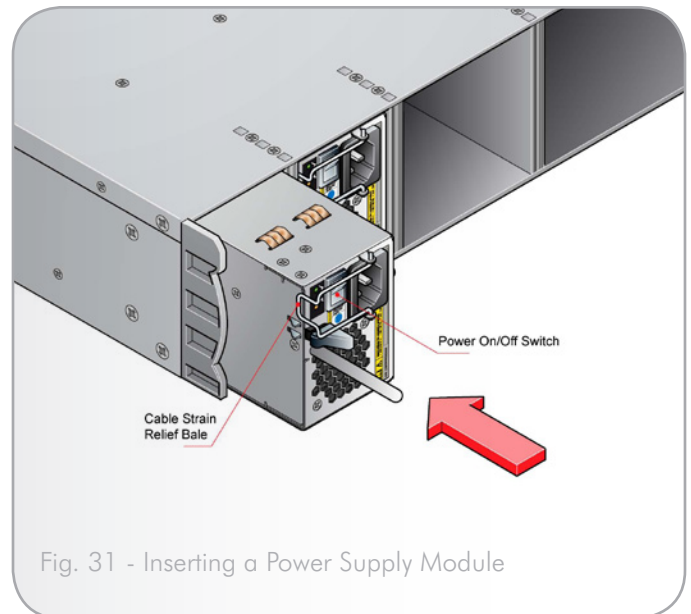

Fig. 31 - Inserting a Power Supply Module
2. Slide the module into the enclosure (Fig. 31).